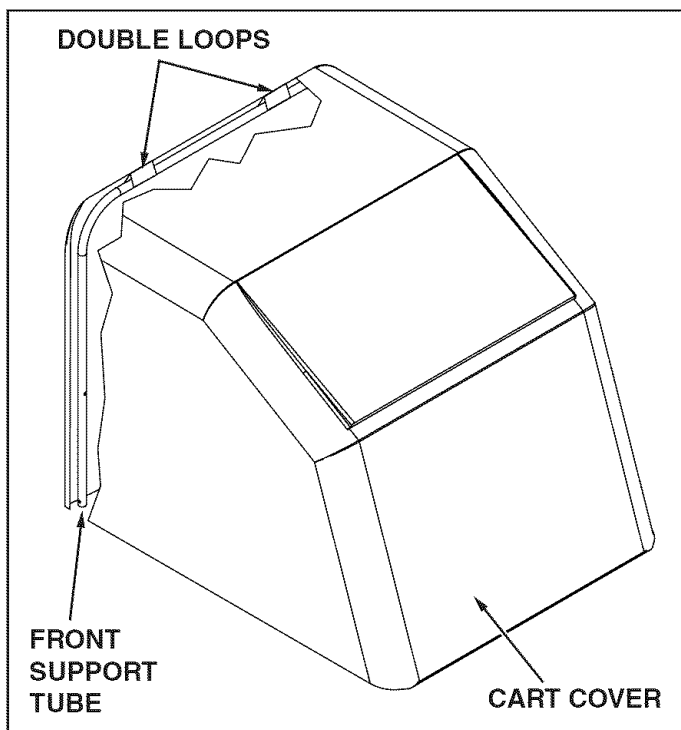

FIGURE 14
- Slide the front support tube through the double loops located near the front of the cart cover. See figure 14.